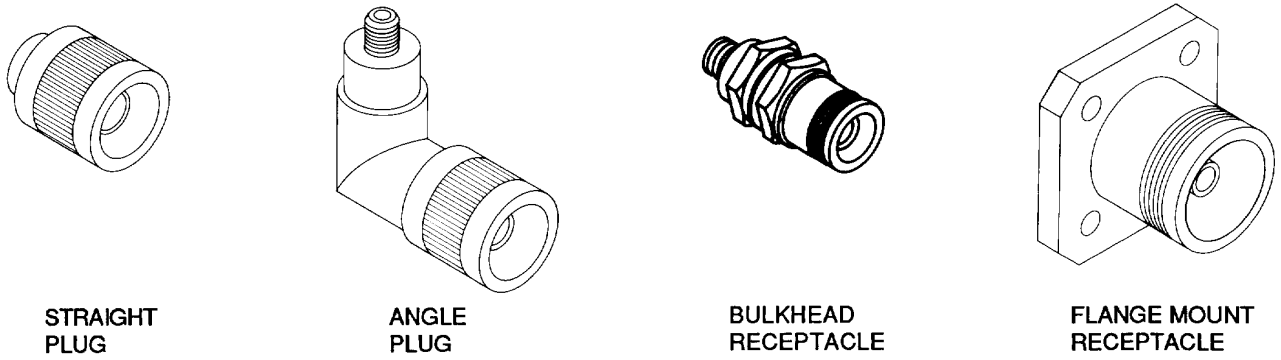

Figure 17. Typical SC Series Connectors
50. **Series SC Connectors.** These connectors are designed for medium sized cable. They are weatherproof with screw type coupling. They operate with a peak maximum voltage of 1500 volt and a frequency of 11,000 MHz. The nominal impedance is 50 ohms (Figure 17).